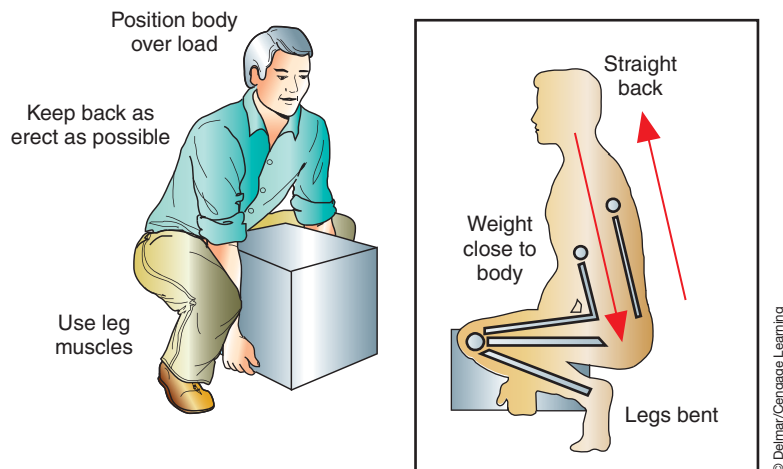

FIGURE 1-5 When lifting a heavy object, keep your back straight and lift with your legs.
5. Place your body close to the object. Keep your back and elbows straight (Figure 1-5).